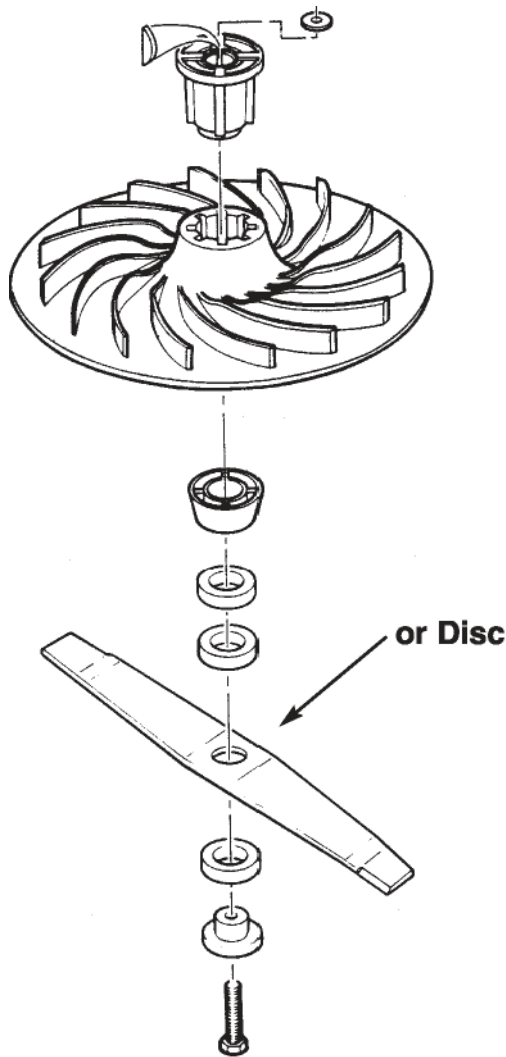

Fig. 8
- e. Reposition the spacers as required (Fig.8). For the lowest cut all three spacers should be above the blade. For an intermediate cut there should be one or two small spacers above and two or one below the blade. To obtain the highest cut, all three spacers should be below the blade.